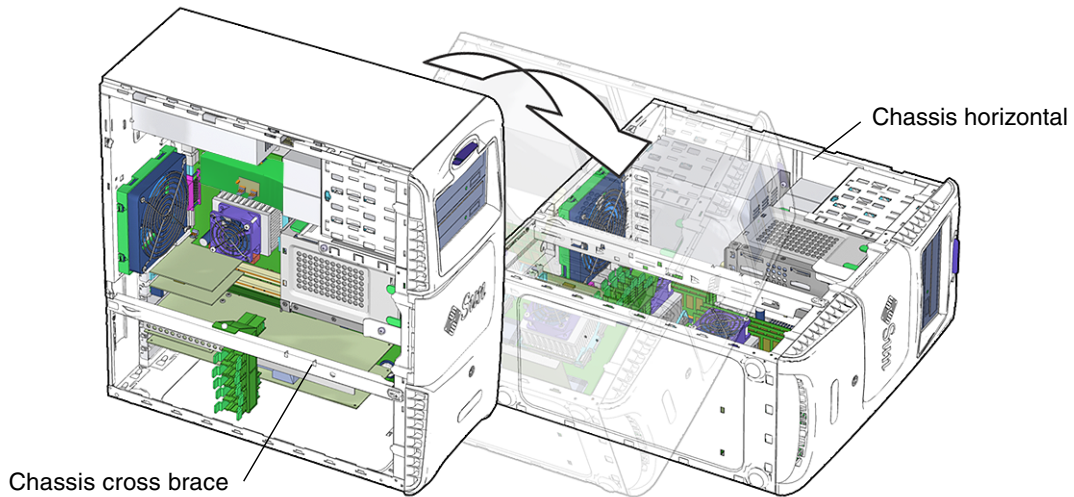

FIGURE 10-13 Positioning the Chassis Horizontally
2. Set the chassis on its side (FIGURE 10-13).